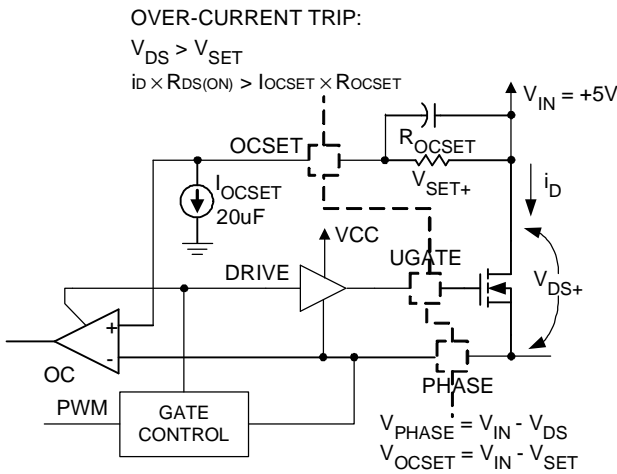

Figure 3
The over current protection (OCP) function of the RT9202B is triggered when the voltage across the $R_{DS(ON)}$ of upper side MOSFET that developed by drain current exceeds over-current tripping level. An external resistor (R_{OCSET}) programs the over-current tripping level of the PWM converter. As shown on Figure 3 the internal $20\mu A$ current sink (I_{OCSET}) develops a voltage across R_{OCSET} (V_{SET}) that is referenced to V_{IN} . The DRIVE signal enables the over-current comparator (OC). When the voltage across the upper MOSFET ($V_{DS(ON)}$) exceeds V_{SET} , the over-current comparator trips to set the over-current latch.